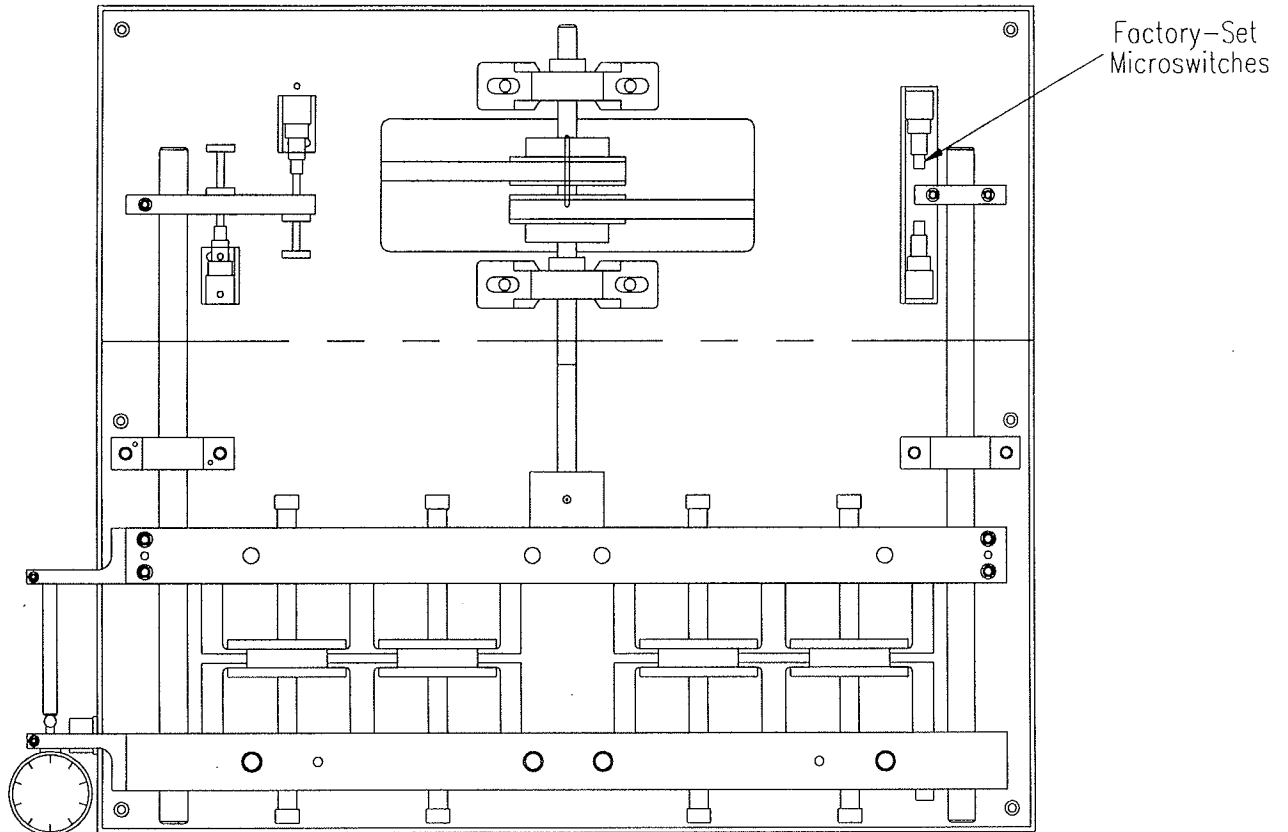

Figure 2, Factory-Set Limit Switch Location on ATS Series 520 Horizontal Sealant Testers
**Do not remove or relocate factory-set microswitches.** Refer to Figure 2 for location of factory-set limit switches. Microswitches prevent crosshead overtravel in the event of adjustable limit switch or relay failure.